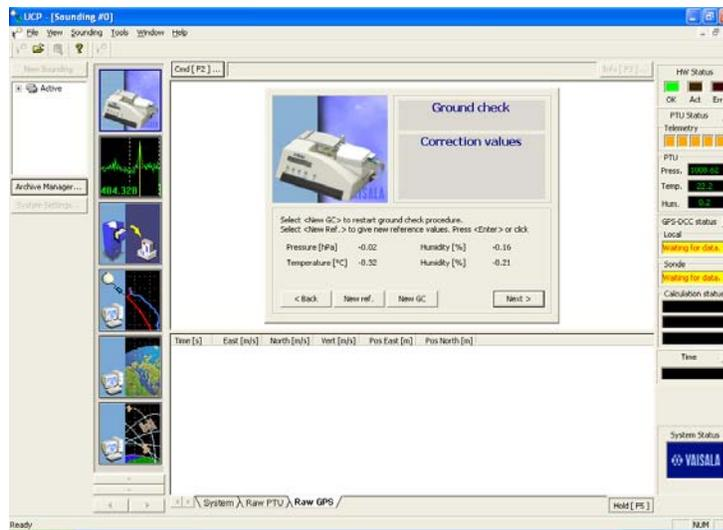

Figure 13
- 14) On the next screen (Figure 13), if everything looks OK, click on “Next.” If you need to change any values, click on “Back” and try again.